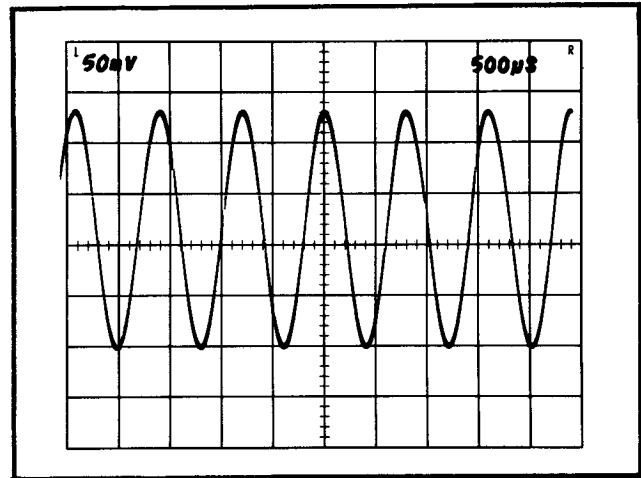

Fig. 2-3. Oscilloscope display when making P-P voltage measurements.
4. With the POSITION control, position the display so the lower portion of the waveform coincides with one of the graticule lines below the center horizontal reference line, and the top of the waveform is in the viewing area. Move the display with the horizontal Position control so one of the upper peaks is aligned with the center vertical reference line (see Fig. 2-3).